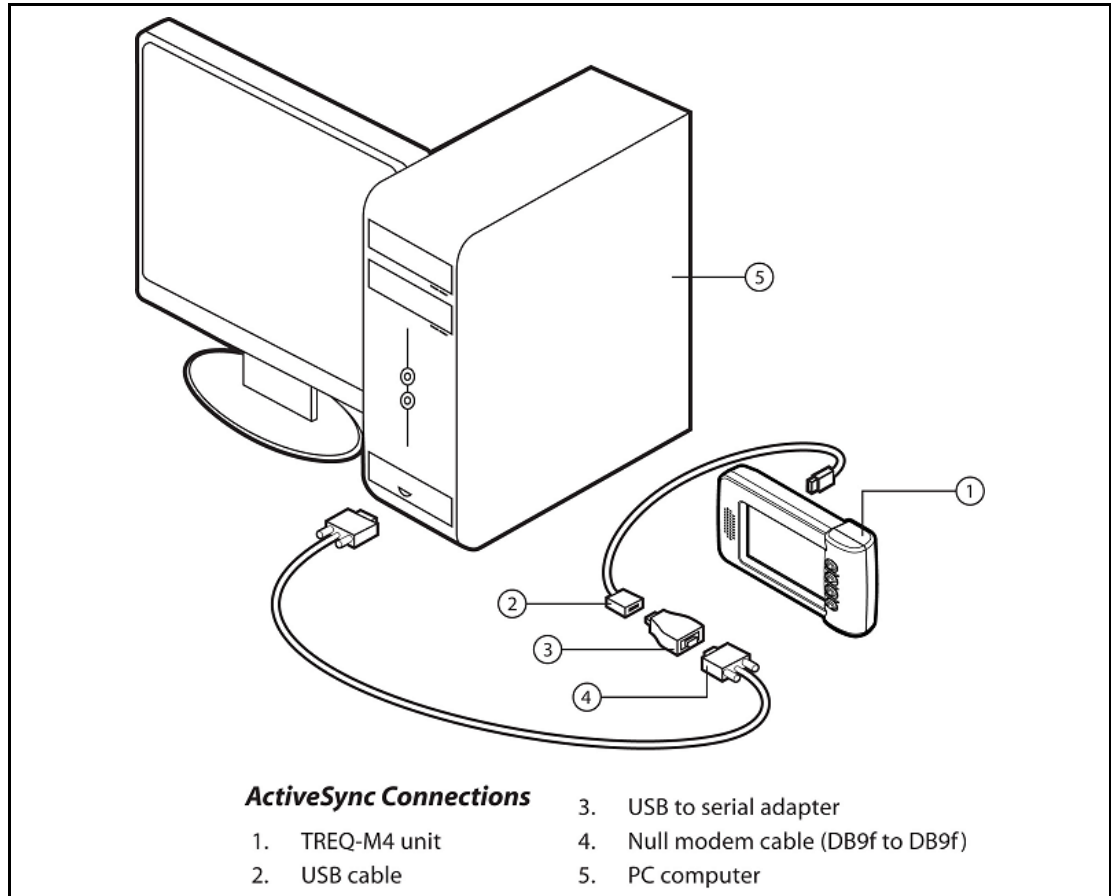

Figure 20
The serial cable is wired symmetrically—either end of the cable can be connected to the TREQ-M4 (assuming the connectors match). Connect one end of the serial cable to COM5 on the TREQ-M4. COM5 is available via the USB-to-serial converter. Connect the other end of the serial cable to a free port on the PC. If possible, note the name of the port you use (e.g., COM1, COM2, etc.). Refer to Figure 20, “ActiveSync Connections.”
**NOTE**  The USB extension cable (item 2 in Figure 20) is not strictly required, although it makes the USB-to-serial adapter/TREQ-M4 connection more convenient.